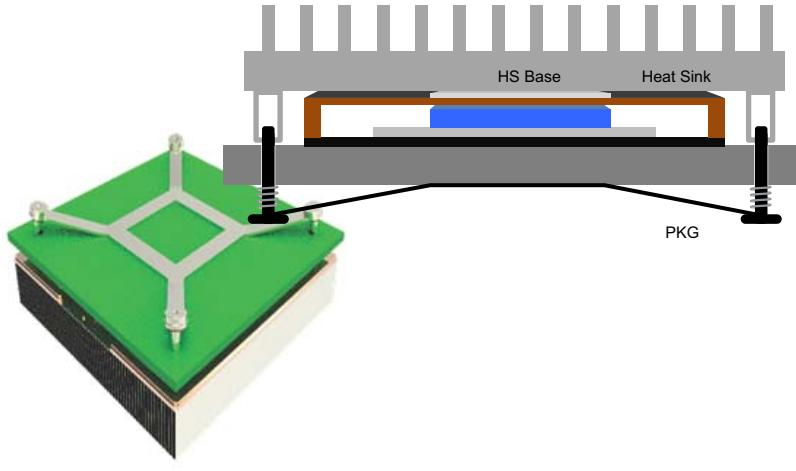

Figure 11-2: Dynamic Mounting and Bracket Clips on Heat Sink Attachment
-  **RECOMMENDED:** Xilinx recommends using dynamic mounting around the four corners of the device package. On the PCB, use a bracket clip as part of the heat sink attachment to provide mechanical package support. See Figure 11-2.